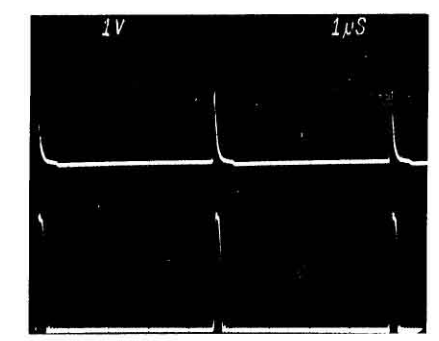

Figure 7-1. UPPER TRACE - input to C1004. LOWER TRACE - pin 11 of IC1005.
5. IC1005 A and B are used as a buffer amplifier and wave shaper for the 228kHz signal coming from the MPX—PLL IC in Section 4. IC1005, IC1006 and IC1007 form a divide by 12 circuit to produce the 76kHz reference and 19kHz $\phi 1$, $\phi 2$ signals. Check Figures 7-1, 7-2 and 7-3 for correct wave forms.